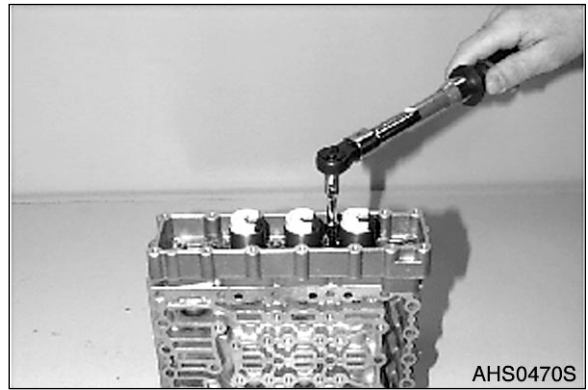

Figure 64
- I. Pay attention to radial installation position of pressure regulators, see Figure 64.